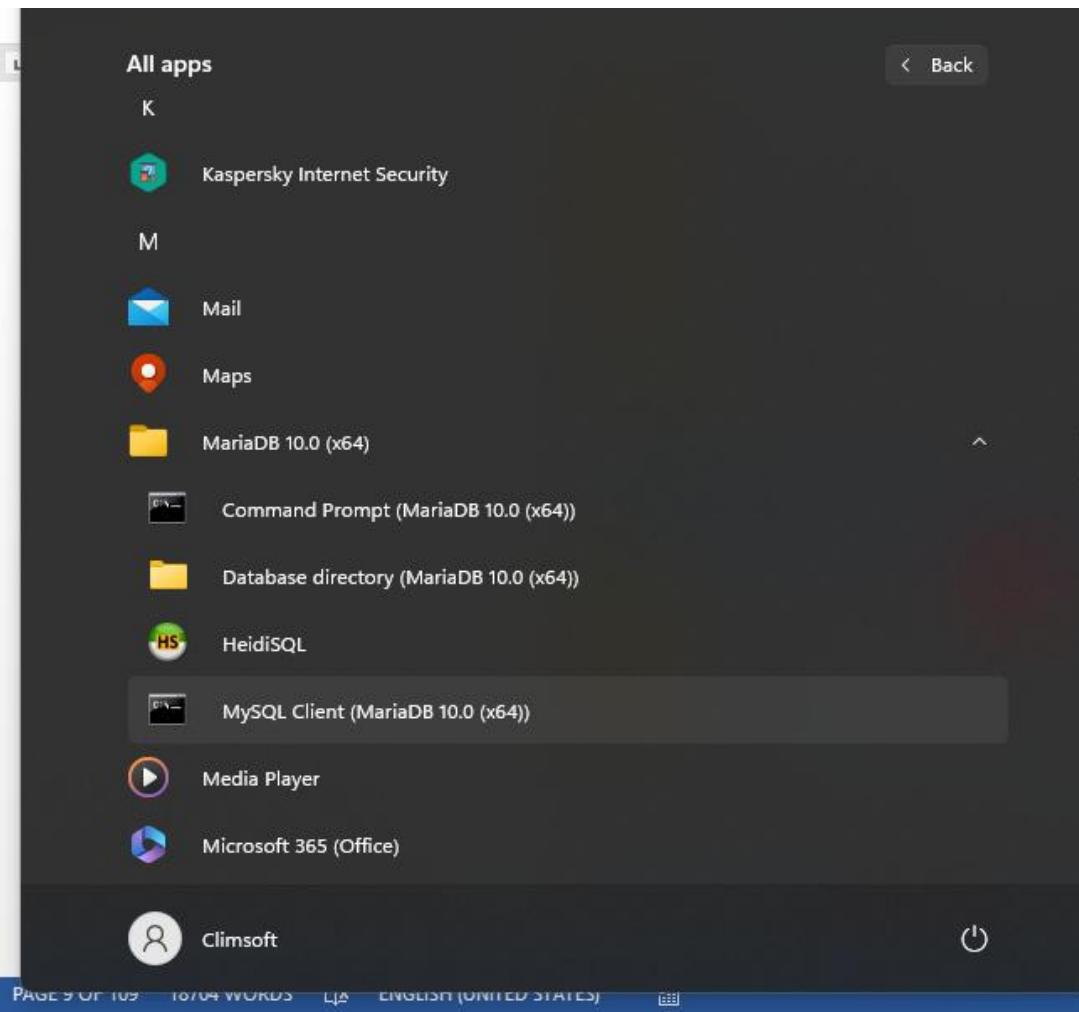

Figure 2: Launching the MariaDB Client
- (i) Launch MariaDB Prompt from your **Start Windows** program by clicking on the **MySQL Client (MariaDB xx.x)** as illustrated in Figure 2. You can also type the name "**MariaDB**" in the search box. Dialogs obtained may look different, depending on your Version of Windows.